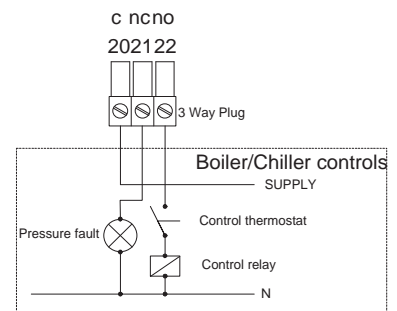

Fig 1.3 Typical example of Wiring Diagram
- 1.3.5.3 Connect incoming electrical mains supply to identified terminals in panel (see fig. 1.3). Ensure voltages and frequency indicated on the motor nameplates and wiring diagrams correspond with supply mains data and that the supply fuse ratings are correct for the total current rating of the equipment. Note: some units may require a 3 Phase supply for special applications. Refer to wiring diagram supplied with the unit or contact AquaTech-Pressmain.
- 1.3.5.4 Make the BMS connection, if required to the 3 way terminal plug on the MPC-PU controller inside control panel. Connect boiler/chiller terminals no. 20, 21, 22, in series with the boiler/chiller control circuits so that in the event of a fault condition occurring the boiler/chillers shut down and remain inoperative until the fault condition is rectified. (see fig 1.3). The Boiler relay is energised for a normal condition and releases to a low or high pressure alarm condition.
- Volt free single changeover contact in control panel (see fig 1.3): Energised for normal pressure condition, release for high or low pressure fault.